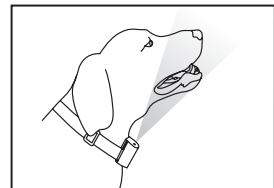

Fig. 5
2. Place the collar around your standing dog so that the spray opening is perpendicular to the nose (Fig. 5) and adjust to the correct size.